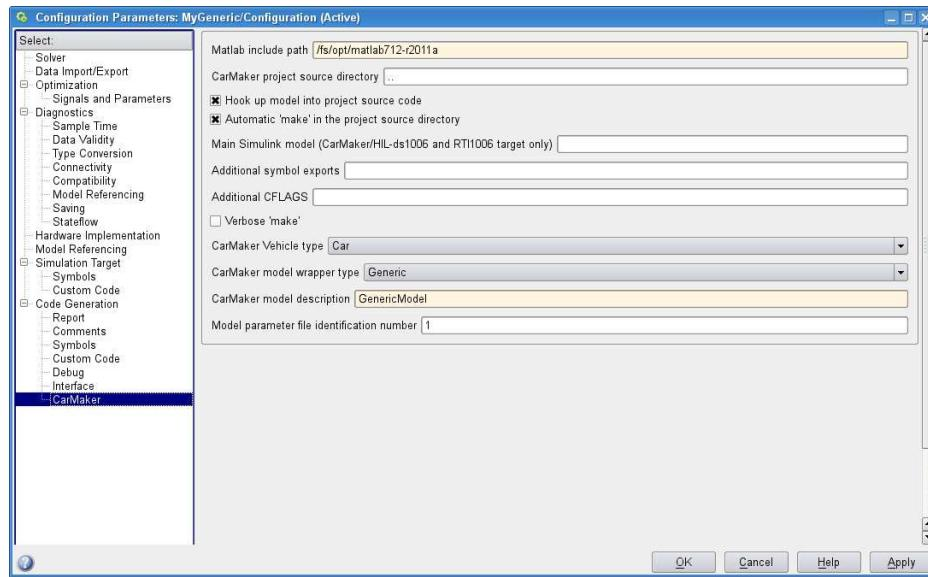

Figure 8.10: Real-Time Workshop, CarMaker code generation options
- For single processor setup, in the field *Main Simulink Model* (see figure 8.10), the name of the CarMaker Model (e.g., generic) needs to be entered.
In case, the option *Hook up model into project source code* was not activated in the CarMaker code generation settings (see figure 8.10), the following changes to the `User.c` file in the `src` folder of your CarMaker project directory need to be done for the logical model integration: